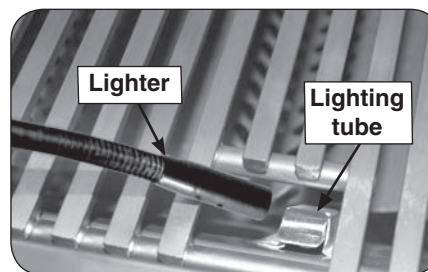

Fig. 27-2 - Manual lighting
2. Insert either a burning long-barrel butane lighter or a burning long-stem match through the cooking grid opening to the top of the lighting tube. (Fig. 27-2). For backburners, hold the flame against the surface of the backburner. For charcoal burners, hold the flame near the burner.
4. If the burner does not light within five (5) seconds of turning the control knob, **immediately depress the knob and turn the valve to OFF**. **WAIT FIVE (5) MINUTES** before repeating steps 2 through 4 of the MANUAL LIGHTING instructions.